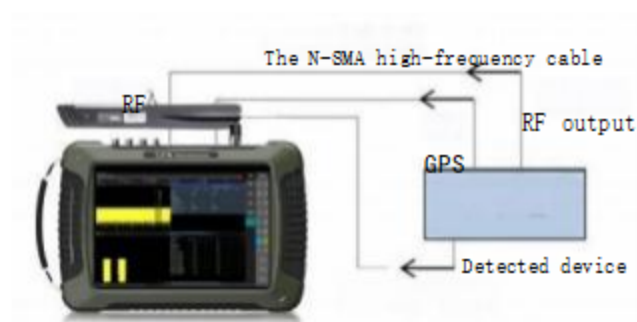

Figure 5.1 Schematic diagram of the tested equipment and RMT series spectrometer
Step 1. Connect the signal output port of the device under test to the RF input port of the RMT series spectrometer, as shown in Figure 5.1. It is suggested to connect the reference signal for optimizing the test index. refer to section 3.2.2;